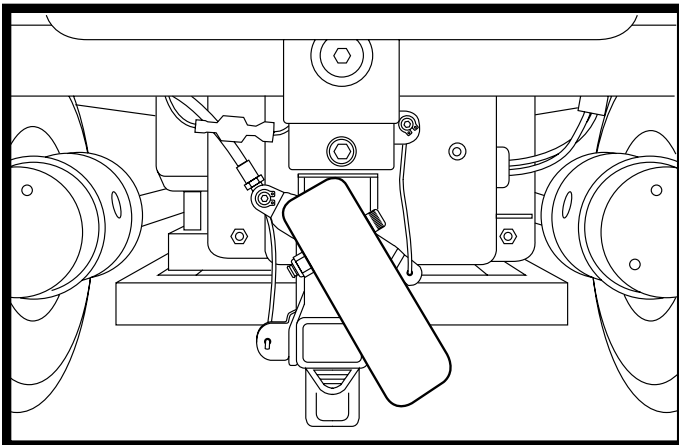

Figure 7. Freewheel Mode
For your convenience, your Jazzy is equipped with a freewheel lever. See figures 7 and 8. This lever allows you to disengage the drive motors and maneuver the chair manually.
1. Pull the manual freewheel lever out and rotate clockwise for freewheel mode (drive disengaged.) See figure 7.